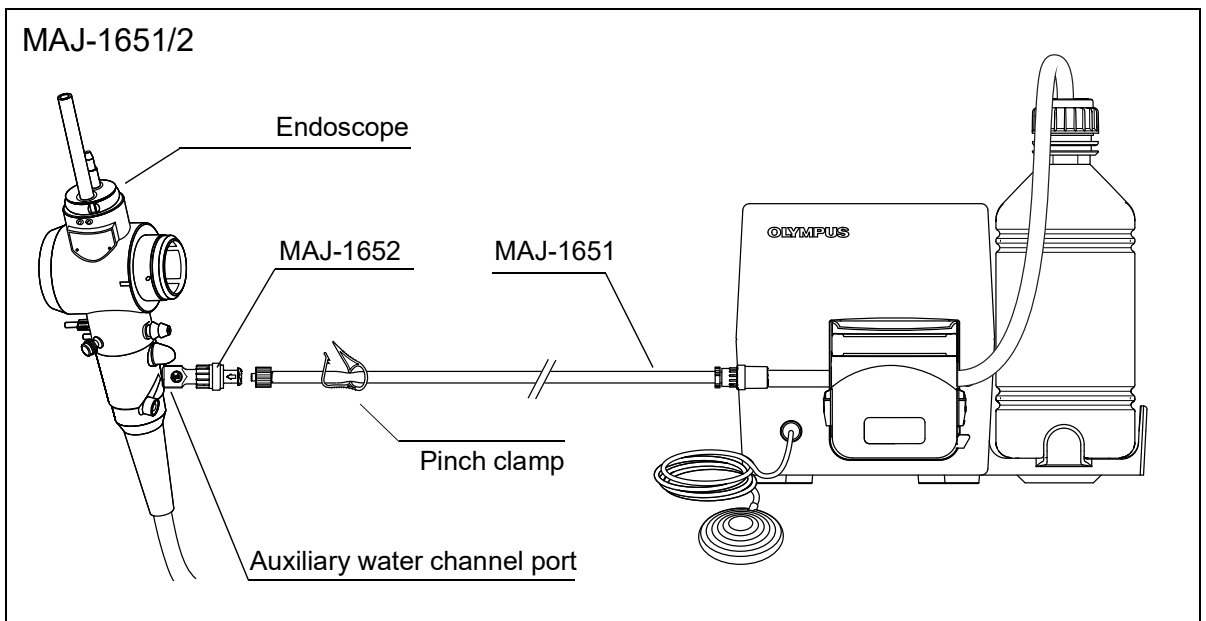

Figure 3.11
17. **Auxiliary channel connection (with MAJ-1651/2):** Refer to Figure 3.11 and connect the Luer lock connector on the MAJ-1651 water tube to the MAJ-1652 auxiliary channel adaptor attached to the auxiliary channel port on the endoscope.